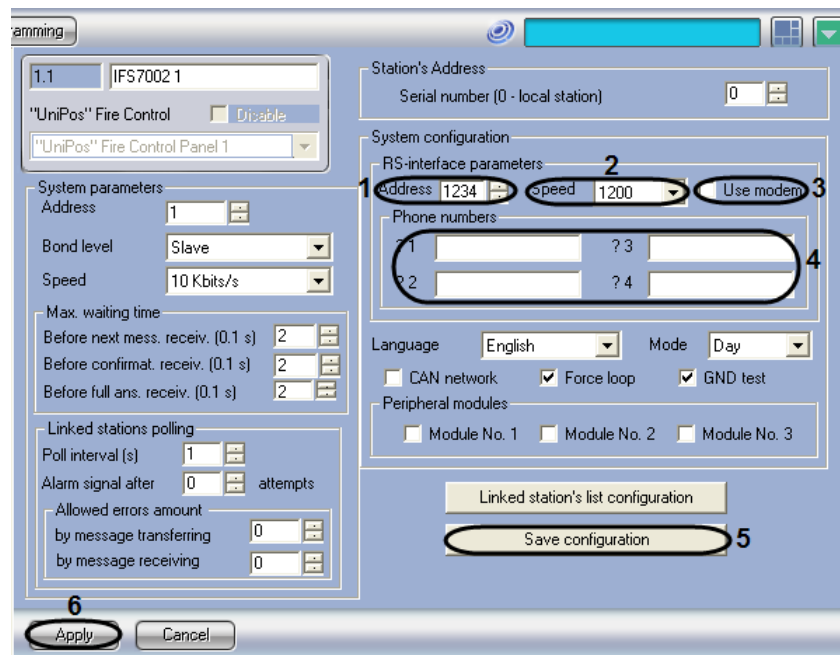

Fig. 3.3—10 Configuring the RS interface parameters for the IFS7002 Fire Control Panel
- Go to the settings panel of the “IFS7002” object (Fig. 3.3—10).
- Enter the RS network address of the FCP (from 0 to 9999) into the “Address” field (see Fig. 3.3—10, 1).
- Select the data exchange rate in the RS network from “Speed” drop-down list (see Fig. 3.3—10, 2).
- If a dial-up connection is required for the RS network, check the “Use modem” checkbox (see Fig. 3.3—10, 3).
- Enter the phone numbers for the dial-up connection into the “Phone numbers” field (see Fig. 3.3—10, 4).
- To apply the settings to the FCP you must click the “Save Configuration” button (see Fig. 3.3—10, 5).